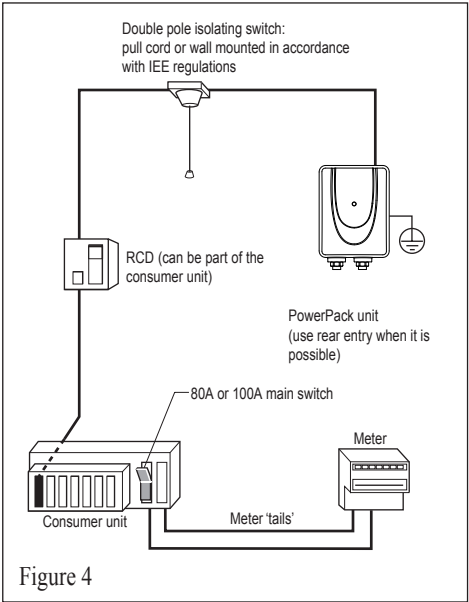

Figure 4
- 2. has a spare fuse way which will take the fuse/mcb you need to fit - see Figure. 4. If so, you can wire the PowerPack direct to the spare fuse of your consumer unit via a suitable rated isolated switch- see Figure.4. Note that not all consumer units will accept a 35/40/45A sized fuse.